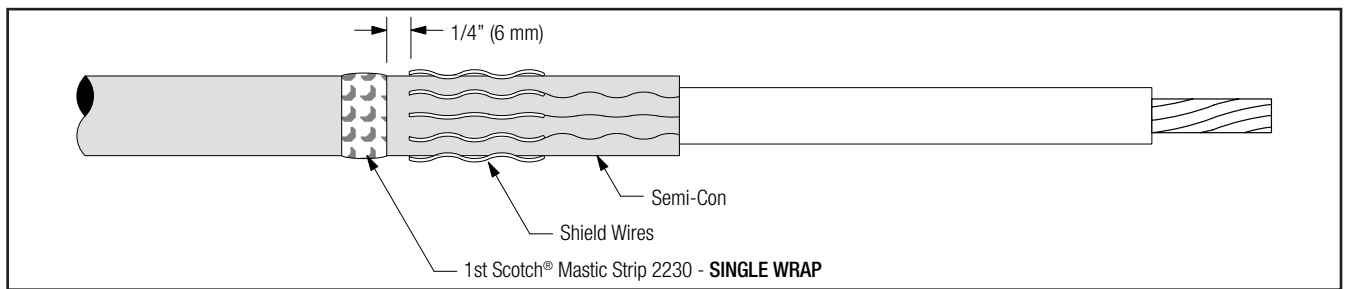

Figure 21
13.1 Select a Scotch® Mastic Strip 2230 from kit and remove white release liners. Using light tension, apply a **SINGLE WRAP** of mastic around the cable semi-conductive jacket 1/4" (6 mm) from shield wires (Figure 21). Cut off excess.